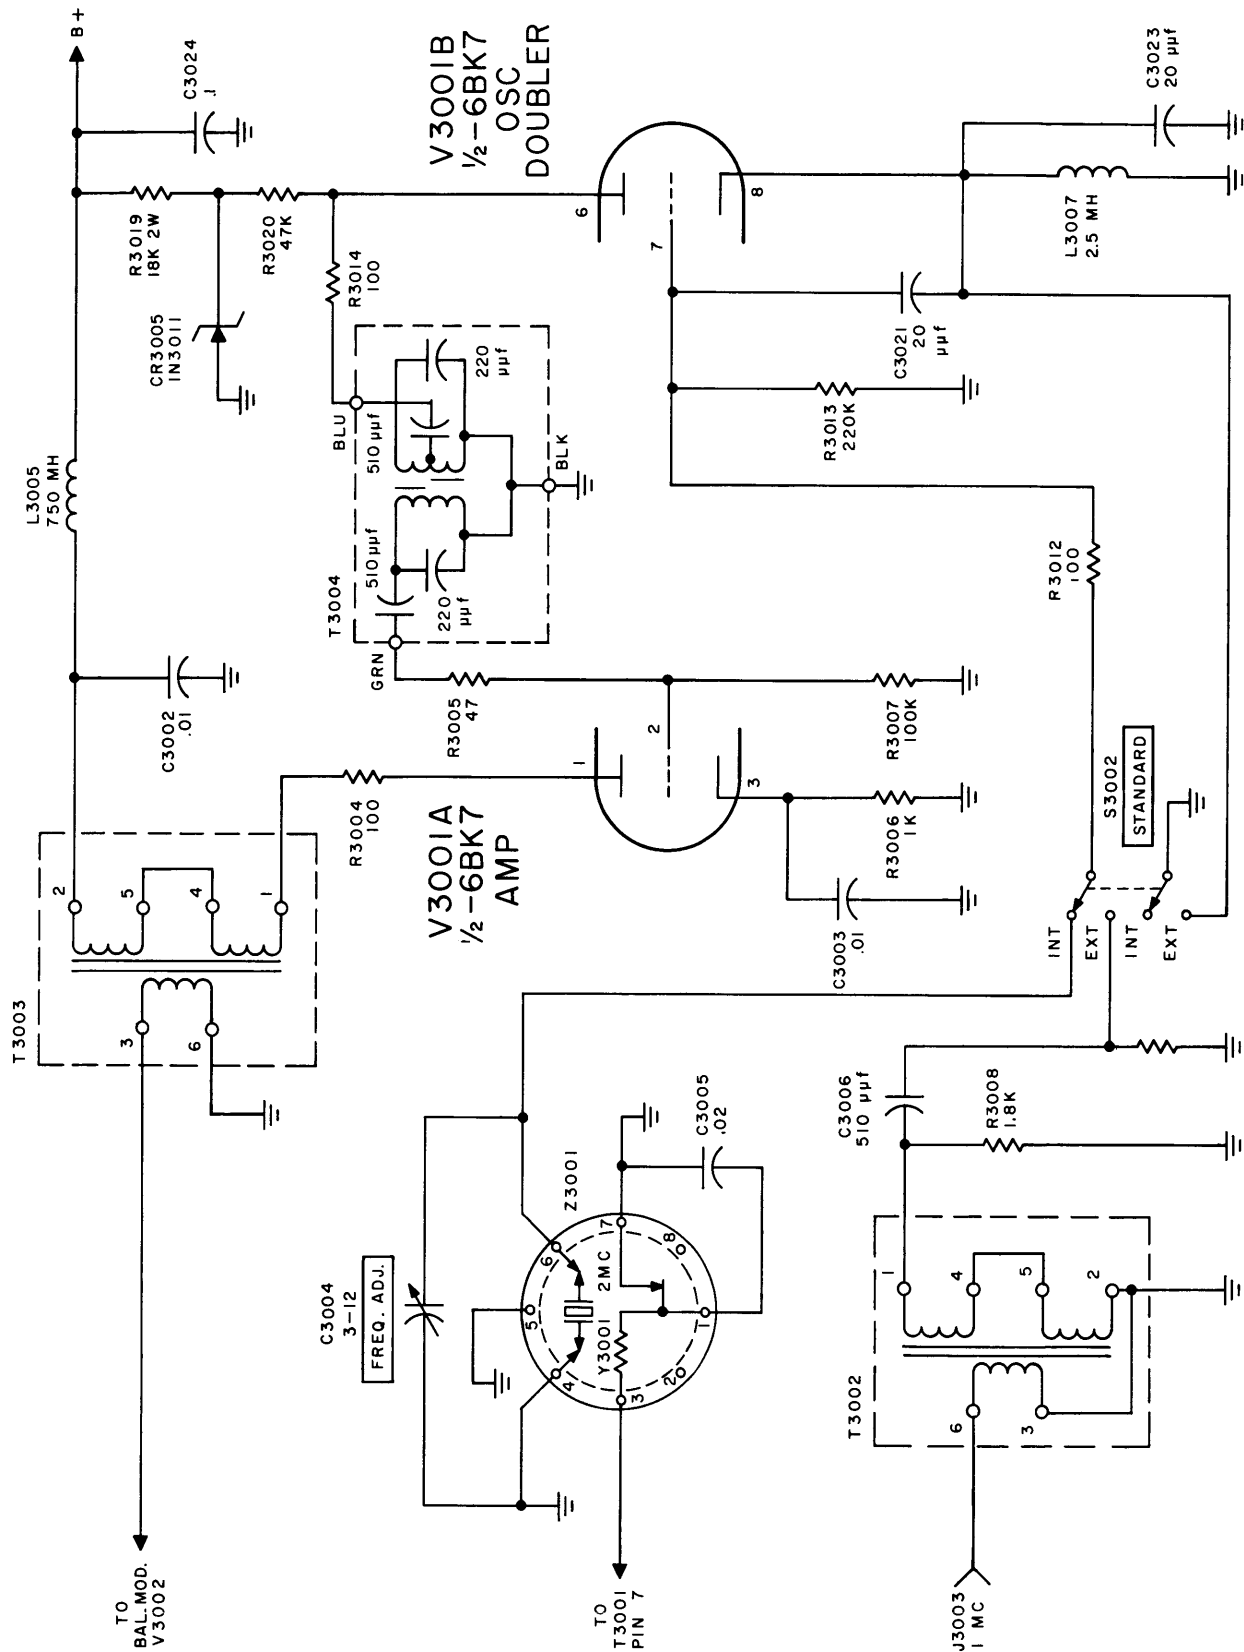

Figure 4-3. Amplifier/Oscillator Doubler, Simplified Schematic Diagram
b. Oscillator Doubler/Amplifier V3001 - The drive signal necessary for the balanced modulator action is obtained from the oscillator doubler/amplifier stage V3001. This drive signal may be derived either from the internal 2 mc crystal Y3001 or from an external 1 mc signal at 1.0 volt applied at connector J3002. This drive signal is selected by a chassis mounted STANDARD INT/EXT toggle switch S3002. The drive signal is applied to the oscillator doubler section of V3001 where the frequency is doubled and amplified by the second section of V3001. The doubled drive frequency signal, now at 2 mc, is coupled through a transformer T3003 to the balanced modulator V3002 input where it is mixed with the input signal of 2.5 mc. The difference frequency therefore is 500 kc which is applied to the paraphase amplifier V3003. See figure 4-3.